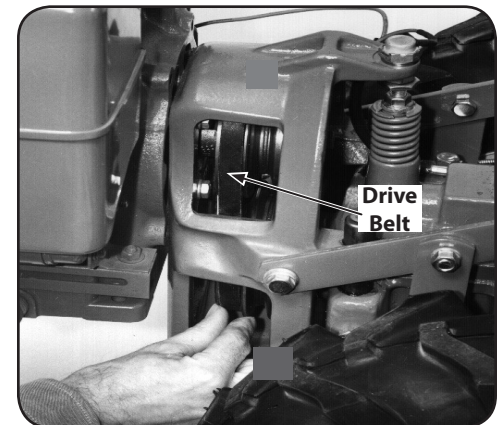

Figure 5-29
12. Move the top half of the belt into the HIGH Range groove, the groove closest to the engine, on the top pulley. See Figure 5-29.